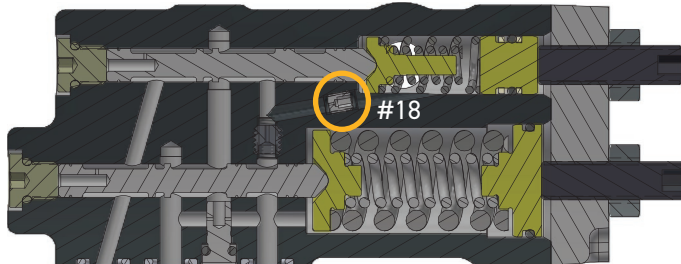

Figure 1
4. For the “LB” option, install set screw orifice (#18) into the differential bore and torque properly. Location shown in Figure 1.